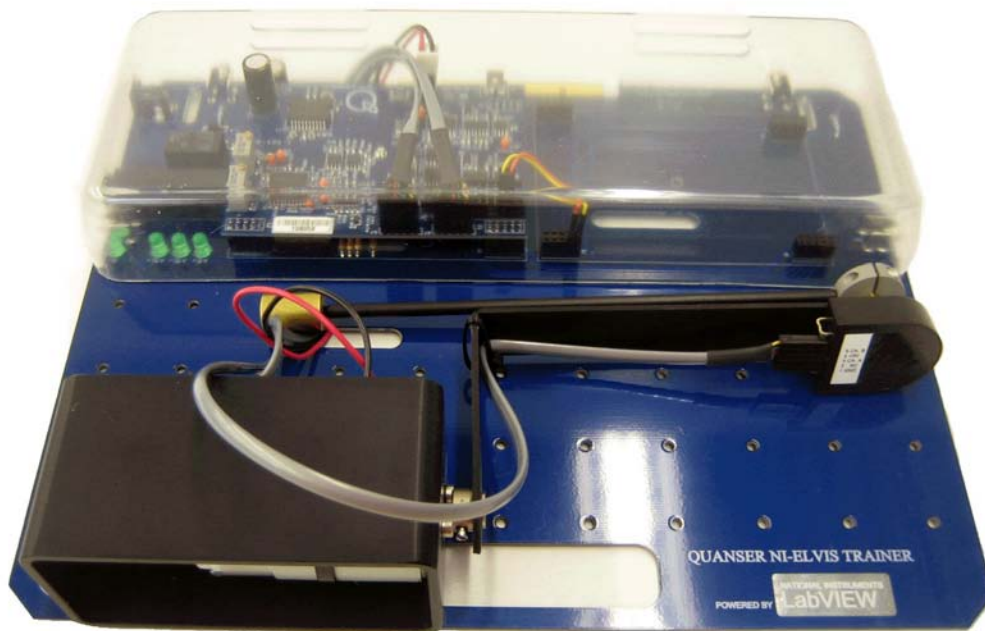

Figure 21: Disassembled QNET-ROTPENT.
1. The ROTPENT device comes disassembled as pictured in Figure 21, below.